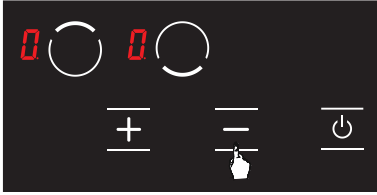

Figure 22
3. Press the **⏪** key again. (see Fig. 22) This shall be performed right after the 2nd step. Child lock is deactivated permanently. In other words, child lock shall continue to be deactivated even if the unit is turned off and on again.